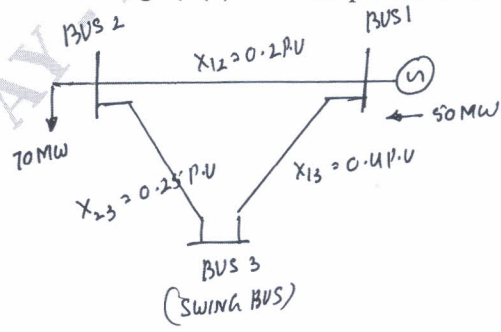

Fig.Q9(b)
- b. Consider the network as shown in Fig.Q9(b), find the power flow in the lines.